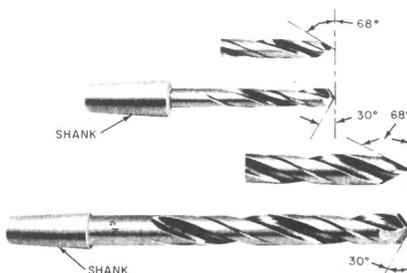

FIGURE 2. Masonry Drills
- 2.02 The masonry drill has a spiral fluting similar to that in twist drills used for drilling metal. The shank of the drill is tapered to fit the socket of the drill holder. See Figure 2.
- 5.05 Dull or unequal length cutting edges may be restored to efficiency on an electric grinder. Maintain the same angle on the point as originally sharpened. See Figure 2. For all other defects, the drills should be replaced in accordance with local procedures.